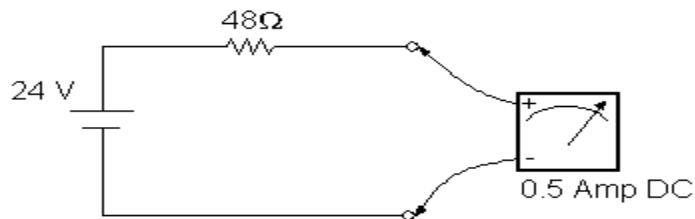

Figure 2.3. Current Measurement
- 2) The meter is connected, using its leads, in series with the element where the current is going to be measured, as can be seen in figure 2.3.